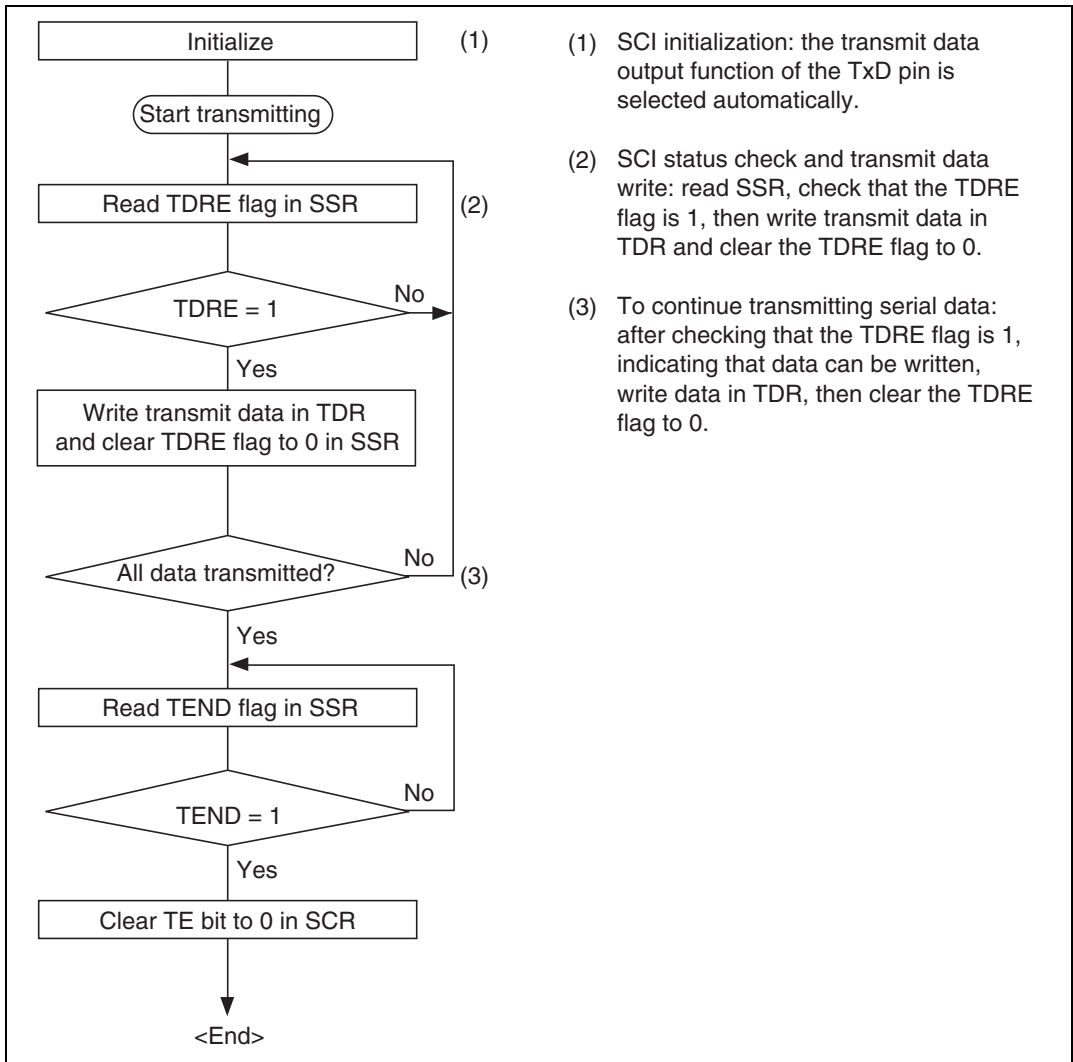

Figure 12.16 Sample Flowchart for Serial Transmitting
- **Transmitting Serial Data (Synchronous Mode):** Figure 12.16 shows a sample flowchart for transmitting serial data and indicates the procedure to follow.